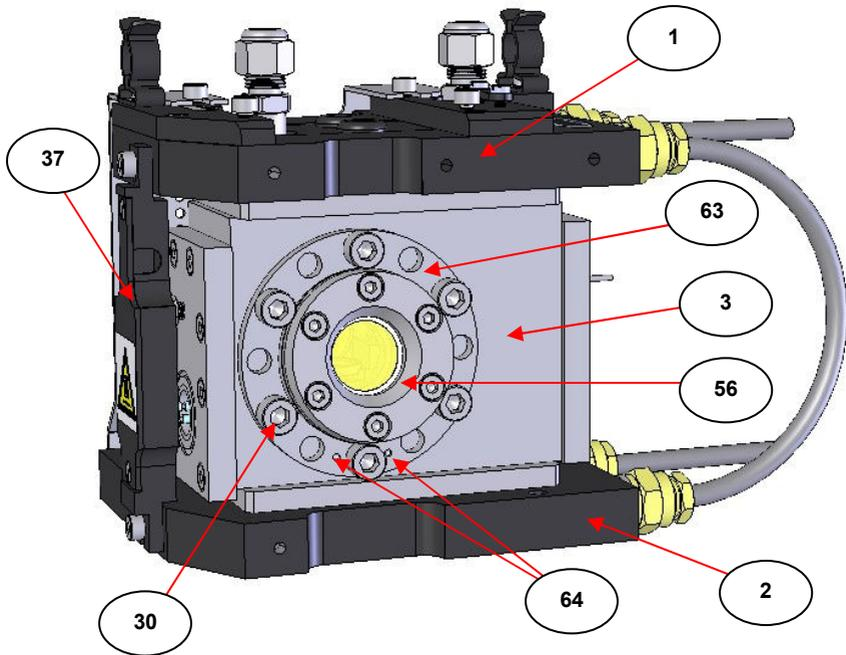

Fig 13. Wedged Window Assembly Fitted for Right to Left Beam Direction Reflectance Mode of Operation
Take the wedged window assembly (56) with its silicone O-ring (35) fitted in place around its flange plate (63) and orientate it to the HTHP Cell body (3) such that the thickest edge of the wedged window assembly (56) is towards the base of the cell body (3) nearest to the lower water cooled plate (2) and the thinnest edge is to top of the HTHP Cell body (3) nearest to the upper water cooled plate (1). Around the edge of the flange plate (63) of the wedged window assembly (56) there are **twelve** M6 size bolt location holes. At the thickest edge of the wedged window assembly (56) there are two indentation marks (64) either side of one of the twelve M6 bolt location holes on the flange plate (63). When this bolt location hole on the flange plate (63) and the indentation marks (64) are positioned as shown in **Fig 13.** five of the remaining eleven location bolt holes on the flange plate (63) align with their threaded hole location fittings on the HTHP Cell body (3) to clamp the wedged window assembly (56) in position using the six M6 x 10mm fixing bolts (30).
Note: *Fig 13.* shows the HTHP Cell with the internal heater block assembly (10) set up for the **decomposition** mode of operation. The position of the heater block assembly (10) and external wiring strap (37) as fitted to either end of the HTHP Cell does not affect any window removal or fitting.